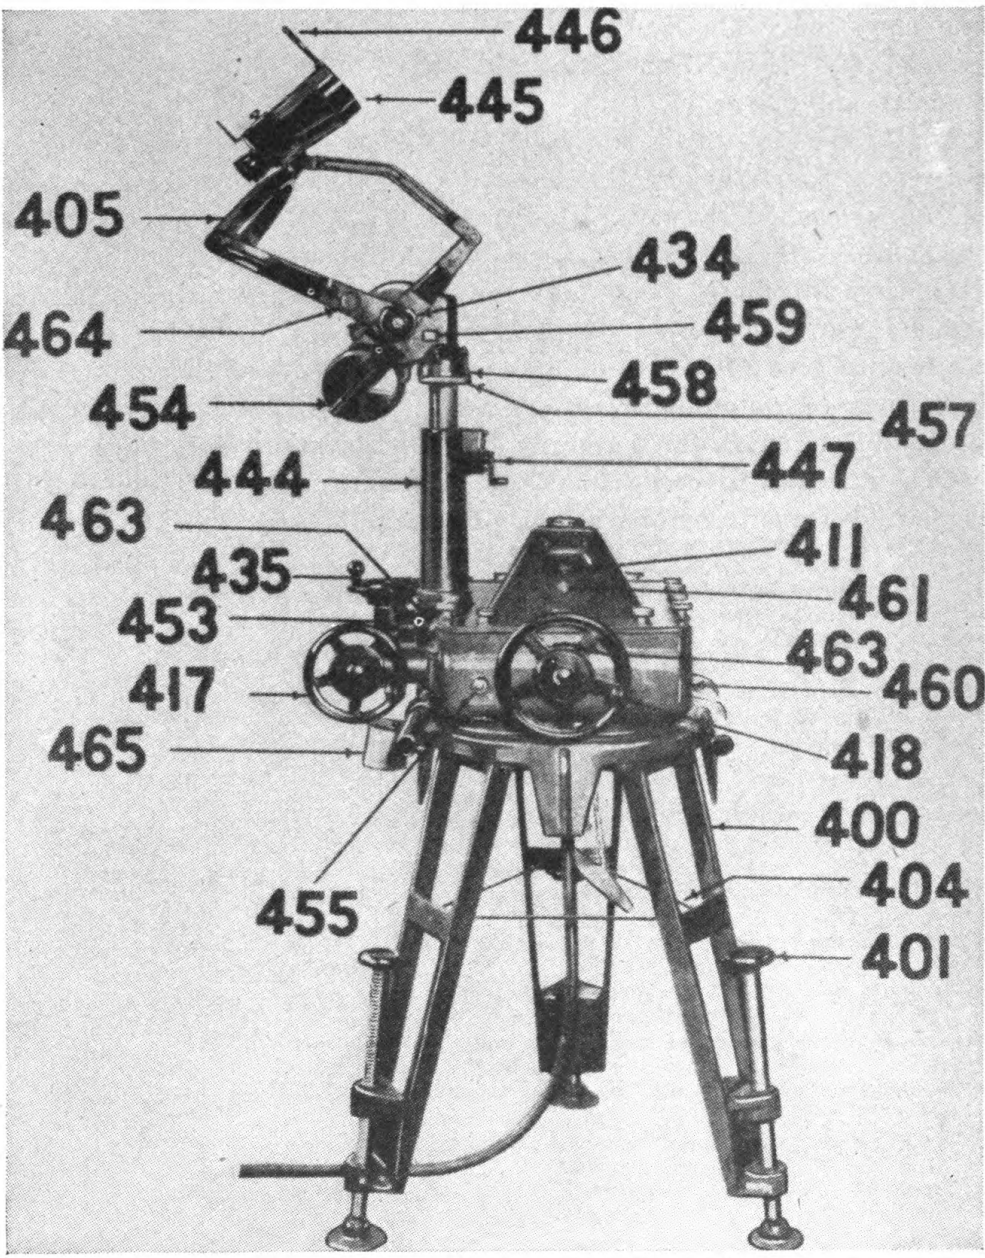

FIGURE 16.—General Electric M1940 control station (right side view).
Q. Name and give the functions of the various parts of the 1940 General Electric control station. *A.* See figures 16 and 17.
401. Leveling jack.....	See figure 16.
417. Observer's elevation handwheel.	See figure 16.
418. Elevation zero reader's handwheel.	See figure 16.
434. Binocular linkage clamp.	See figure 16.
435. Observer's azimuth handwheel.	See figure 16.
446. Open sight.....	See figure 16.
453. Binocular column lock clamp.	See figure 16.
454. Binocular positioning handles.	See figure 16.
463. Level.....	See figure 16.